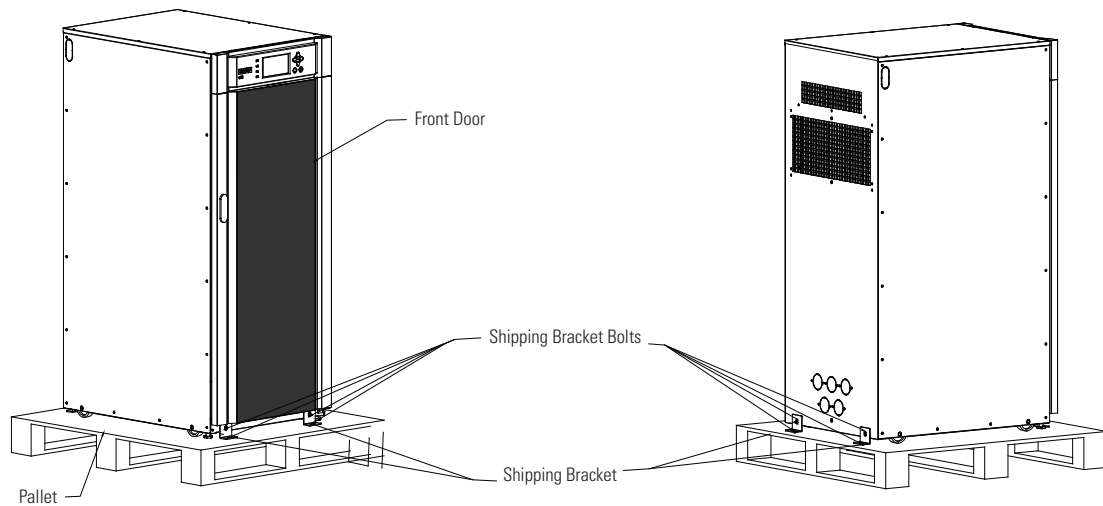

Figure 4-1. Removing the Shipping Bracket
2. Remove four bolts securing the front shipping bracket to the cabinet and four bolts securing the bracket to the pallet (see Figure 4-1). If installing the cabinet permanently, retain the shipping bracket and securing hardware for later use.
5. Remove four bolts securing the rear shipping bracket to the cabinet and four bolts securing the bracket to the pallet (see Figure 4-1). If installing the cabinet permanently, retain the shipping bracket and securing hardware for later use.
11. Using the retained hardware, reinstall the shipping brackets removed in Step 2 and Step 5 to the front and rear of the UPS cabinet with the angle facing outward (see Figure 4-1).